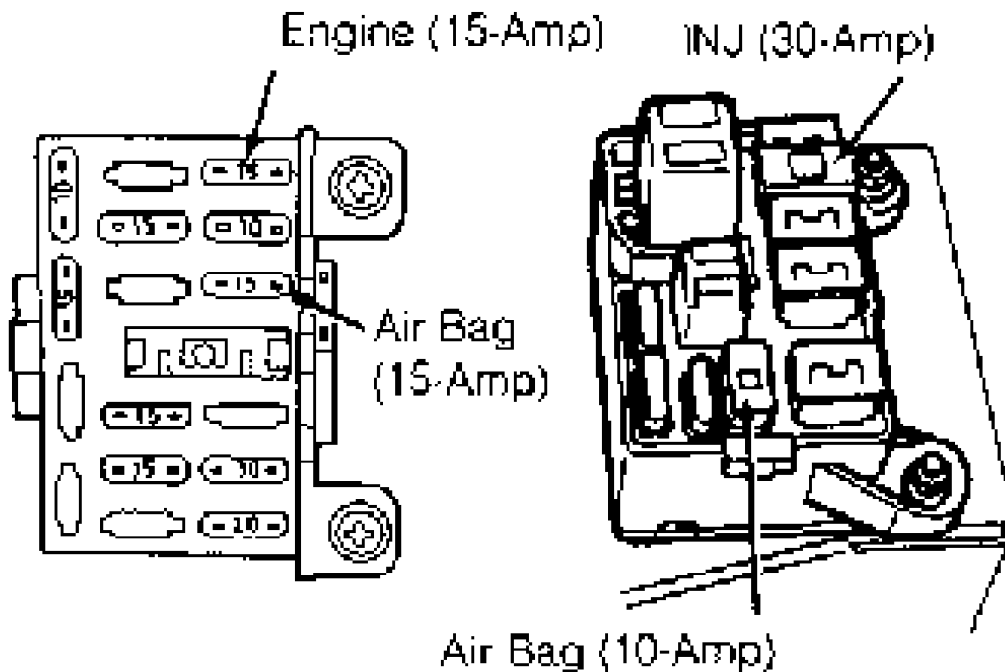

Fig. 6: Identifying Fuses & Relays (Miata)
1) Measure battery voltage. If voltage is less than 9 volts, charge battery. If battery voltage is okay, check fuses/relays in order given in FUSE/RELAY LOCATION table. See Fig. 6 or 7.